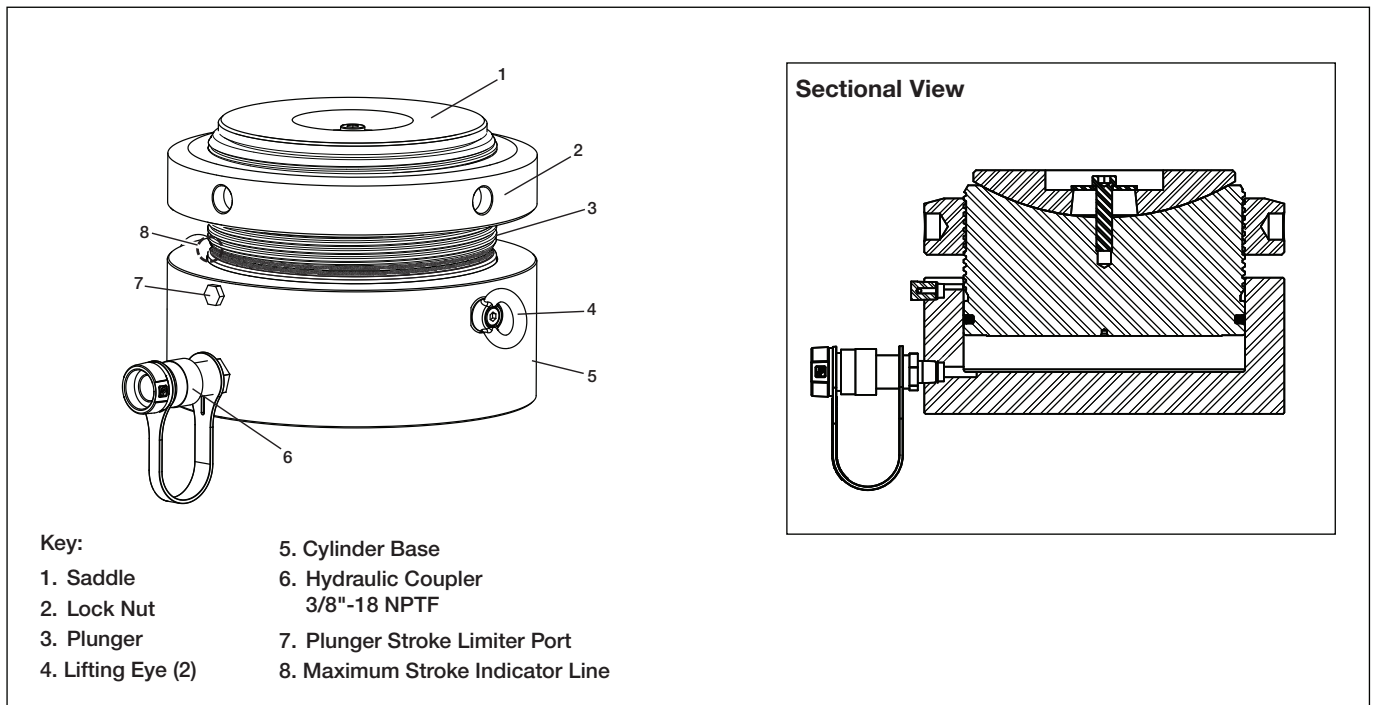

Figure 2, Major Features and Components
All LPL-Series cylinders are equipped with one 3/8"-18 NPTF female hydraulic coupler. Refer to Figure 2, item 6 for location.